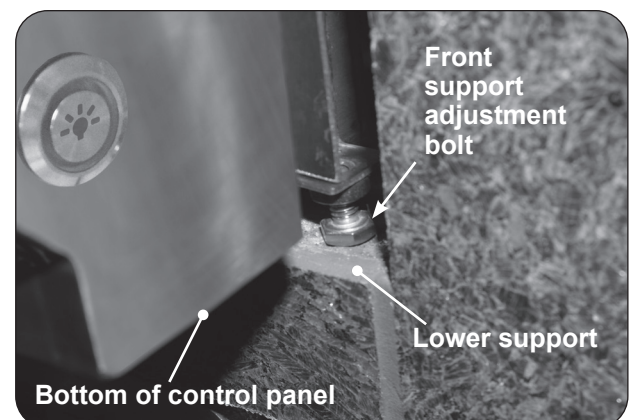

Fig. 28-4 Front support adjustment bolts
3. Rotate the front support adjustment bolts (up or down) until the grill hanger rests flush on the countertop, AND, the adjustment bolts are touching the supporting structure found at the bottom of the cutout (lower support). Use a 7/16" open-end wrench as needed. See Fig. 28-4.